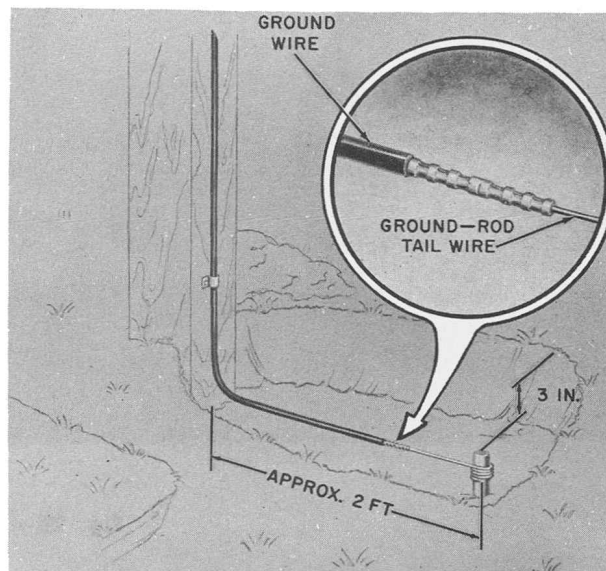

Fig. 28—Ground Rod Installation Near Pole
- (d) Approximately two feet from base of wooden poles or posts where conditions permit (Fig. 28).